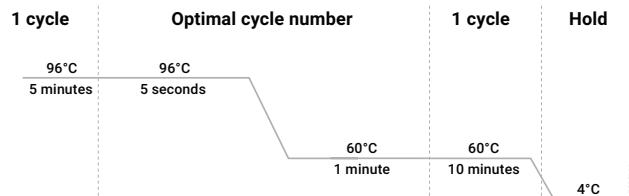

Figure 1. Thermal cycling protocol for the ProFlex® PCR System, GeneAmp® PCR System 9700 and Veriti® 96-Well Thermal Cycler.
2. Select and run the recommended protocol, which is provided below and in Figure 1. The total cycling time is approximately 1 hour.